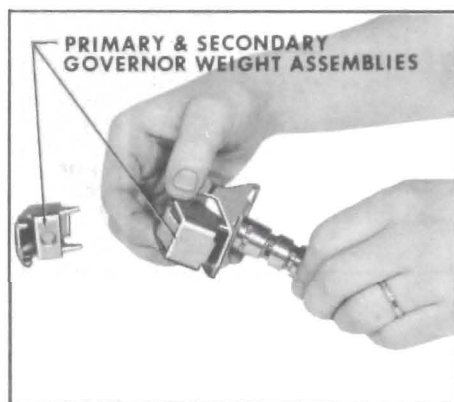

Figure 5-244
4. Remove both sets of primary and secondary governor weight assemblies. Separate primary and secondary weights, governor weight spring will fall free. See Figure 5-244.